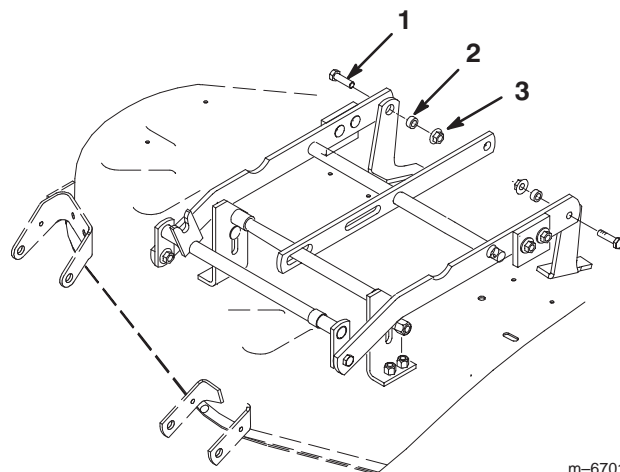

Figure 5
7. Secure each draft bar to the rear mower brackets with a capscrew (3/8 x 1-1/4 inch), spacer (5/16 inch long) and flange nut (3/8 inch) (Fig. 5). Position the fasteners as shown in figure 5.